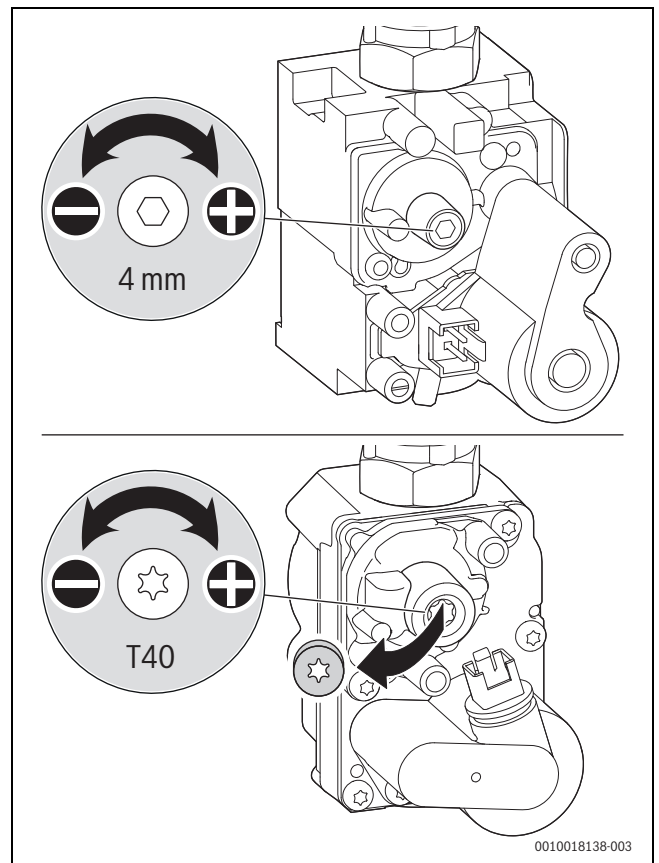

Fig. 103 Setting the CO₂ or O₂ content (above: SIT valve, below: Honeywell valve)
- ▶ Remove the seal from the adjusting screw of the air/gas ratio control valve (only air/gas ratio control valve is shown in the below Fig. 103) and set the CO₂ or O₂ content for minimum rated output.